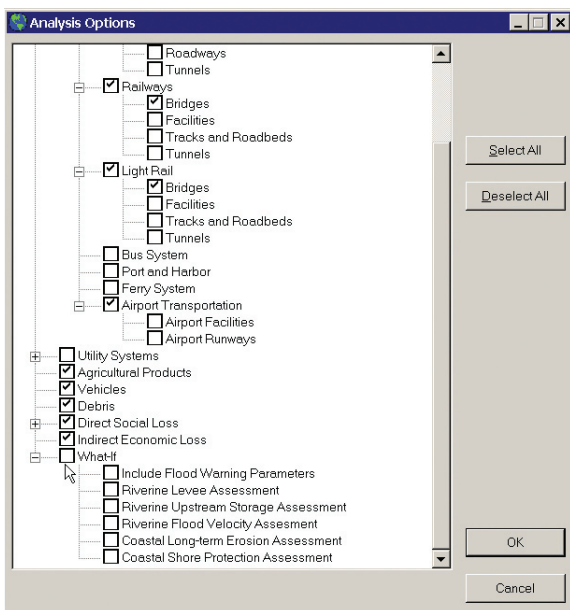

Figure 5-7 Analysis options
- Run the analysis.** To run the analysis, select “Analysis” from the HAZUS-MH main menu and then click “Run.” The Analysis Options menu should now be displayed (see Figure 5-7). Click the “What-If” option and you will see the five riverine and coastal options discussed above. Select the options you want to run and then click “OK.” A new analysis will be modeled using the selected “What-If” options. The results of the analysis can be viewed under the results menu option detailed in Step 4 of this How-To Guide.